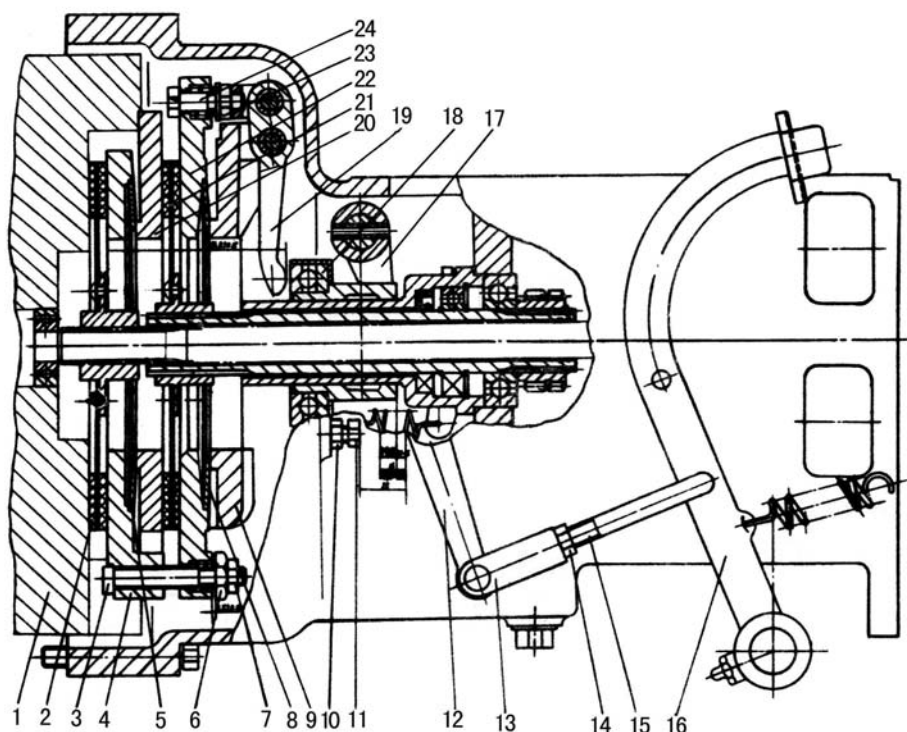

Fig.4-1 Dual stage clutch
Fig. 4-1 is connection-controlled dual stage clutch. It mainly consists of three parts: driving part, driven part and controlling part. Driving part rotates with the engine flywheel; only when the clutch engages can the driven part rotate with the engine.
When adjusting the free travel of the clutch pedal (Fig. 4-1), firstly adjust the length of clutch push rod (15) to ensure that the clearance between end faces of three release levers and release bearing is $2.5 \pm 0.5\text{mm}$ and the idle travel of release rock arm is 3.5-5mm; after adjustment tighten it with nut M10.